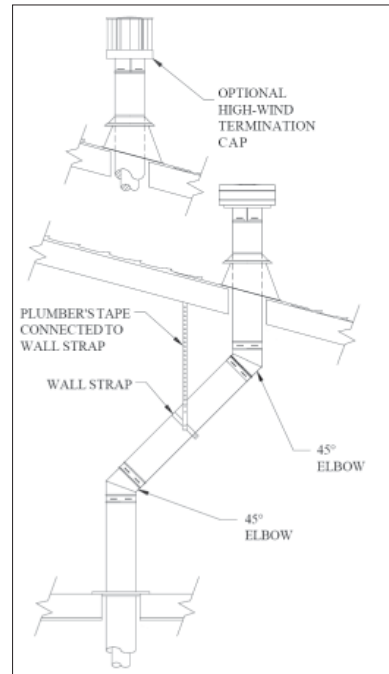
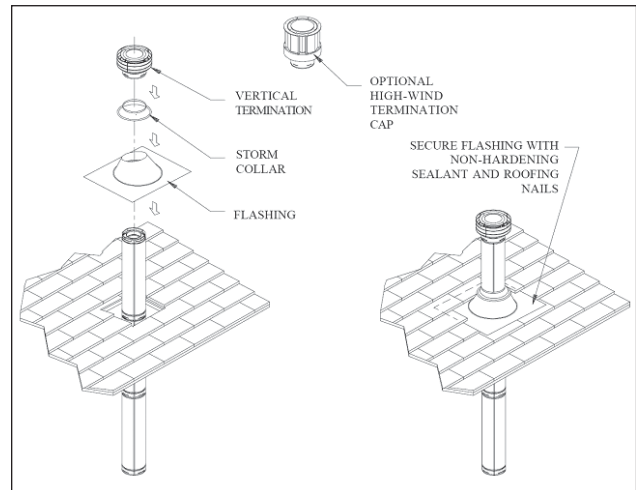

Figure 41: Vertical Installation Using High Wind Cap.
Figure 42: Installation of Flashing & Vertical Termination.
- (1) If an offset is necessary in the attic to avoid obstructions, it is important to support the vent pipe every 3 feet, to avoid excessive stress on the Elbows, and possible separation. Wall Straps are available for this purpose (see Figure 41).
- (2) Whenever possible, use 45° Elbows, instead of 90° Elbows. The 45° Elbow offers less restriction to the flow of flue gases and intake air.
Step 6. Slip the flashing over the Pipe Section(s) protruding through the roof. Use a non-hardening sealant between the Flashing and the roof to prevent water leakage. Secure the base of the Flashing to the roof with roofing nails. Ensure the roofing material overlaps the top edge of the Flashing as shown in Figure 42. Verify that you have at least the minimum clearance to combustibles at the roofline.
Step 8. Slip the Storm Collar over the Pipe, and push it down to the top of the Flashing, as shown in Figure 42. Use the non-hardening sealant above and below the joint between the Storm Collar and the Pipe.